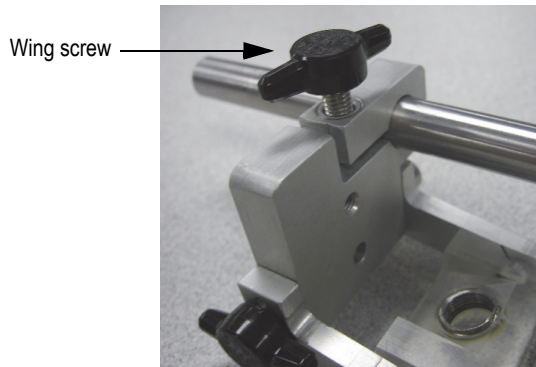

Figure 1-3 Loosening the bar socket
1. On top of the holder, unscrew the wing screw enough to loosen the bar socket (see Figure 1-3 on page 21).